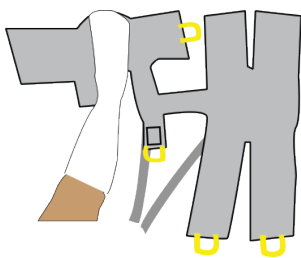
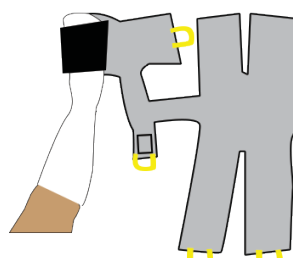
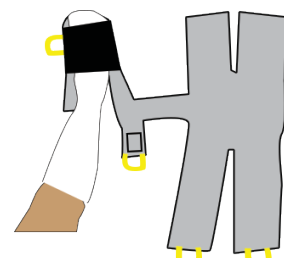
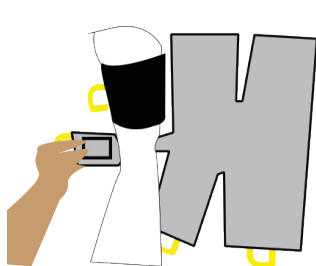

Figure 3
Figure 4
Figure 5
Figure 6
- Apply the cuff over a clean sock, with bandages left in place. Place the cuff open on the floor with the Velcro®-like hook tape facing up and the hose fittings facing down (Figure 3). Center your foot over the cuff (Figure 4). Bring the side strap over the top of the foot and attach snugly (Figure 5). Bring the back heel strap around the ankle and attach it (Figure 6). Center the remaining cuff behind your calf (Figure 7). Attach the upper and lower straps snugly around the front of the leg with Velcro®-like hook tape (Figure 8).